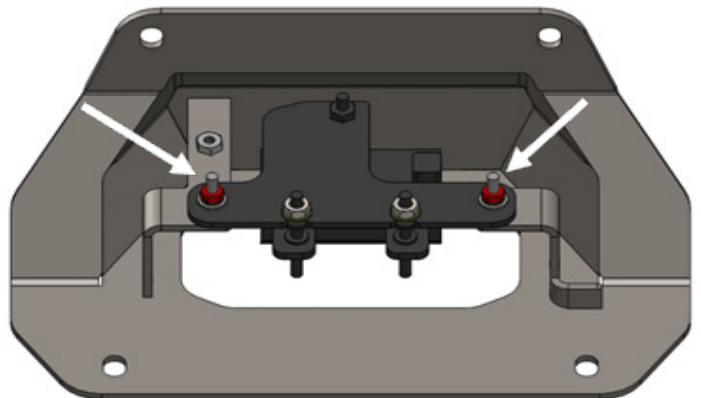

Figure 5
5. Install the bracket (22339) with sensor into the main bracket (22338) using the provided 1/4" hardware (50244-HW). (Figure 5)